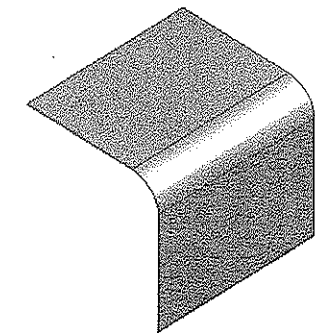

Figure 8-45 Extruded surface model
10. Choose the **Generate** tool from the **Features** toolbar; the sketch is extruded, as shown in Figure 8-45.